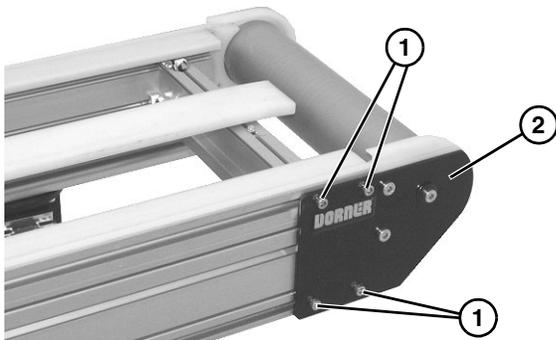

Figure 34
2. On one side of conveyor, loosen the four socket head screws (Figure 34, item 1). Repeat on opposite side.
3. Remove idler tail assembly (Figure 34, item 2).